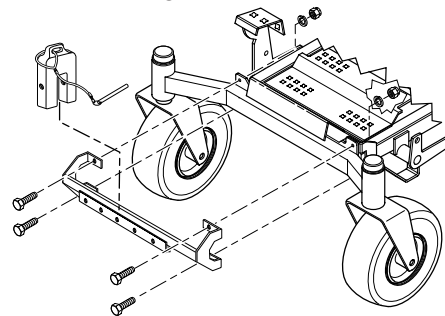

**FIGURE 3-5**
12. Attach the hood assembly to the machine by installing the mounting post into the hopper mounting brackets. Secure with the ring pins and tighten the locking bolts. See Figure 3-5.